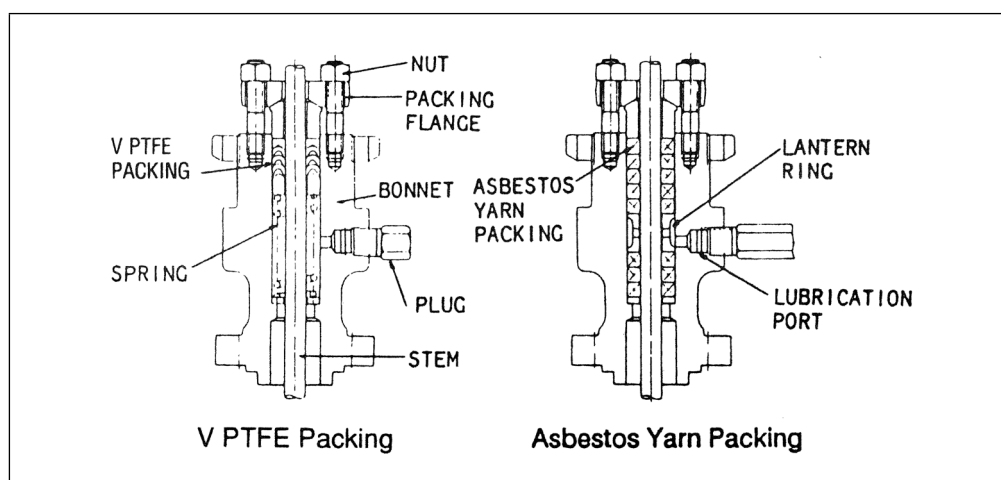

Fig. 2-2. Gland Section
- (1) Securely fix the seat ring onto the valve body with threads, using the special tools (optional). For the tightening torque, see Table 4-1.
- (2) Set the plug on the seat ring. (Apply lubricant “Neverseize” to the threaded sections, except those of the oil-inhibited valves.)
- (3) Put the bonnet on the valve body and check that the bonnet is correctly mated with the indented section of the valve body. Tighten the nuts uniformly, paying attention so that they are not tightened unevenly (tighten alternately the ones located at symmetrical positions). For the tightening torque, see Table 4-2.
- (4) Insert the gland packing as shown in Fig. 2-2.
- (2) Set the plug on the seat ring. (Refer to the Disassembly Procedures.)
- (3) Put a sheet of gasket (2) on the valve body side and place the guide ring in a manner of covering the plug. (Apply lubricant “Neverseize” to the gaskets, except those of the oil-inhibited valves.)
- (4) Put the gasket (1) on the guide ring. (Apply lubricant “Neverseize” to the gaskets, except those of the oil-inhibited valves.)
- (5) Put the bonnet on the valve body and check that the bonnet is correctly mated with the indented section of the valve body. Tighten the nuts uniformly, paying attention so that they are not tightened unevenly (tighten alternately the ones located at symmetrical positions). For the tightening torque, see Table 4-2.
- (6) Insert the gland packing as shown in Fig. 2-2.
- (1) For an integral-type cage valve, put a spiral gasket in the valve body. For a split-type cage valve, securely fix the seat ring onto the valve body with threads, using the special tools. (Apply lubricant “Neverseize” to the gasket, except those of the oil-inhibited valves.)
- (2) Put the gasket (2) in the valve body.
- (3) Put the cage in the valve body.
- (4) Put the gasket (1) on the cage.